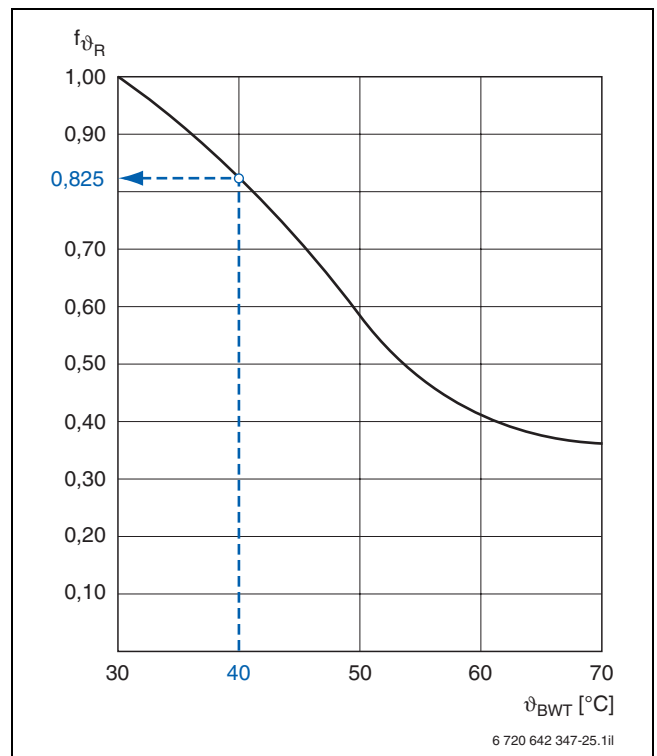

Fig. 29 Conversion factor for calculating the rated output at other inlet temperatures
- $f_{\vartheta R}$ Conversion factor → Fig. 29
- $f_{\vartheta R} = 0.825$ (→ Fig. 29)